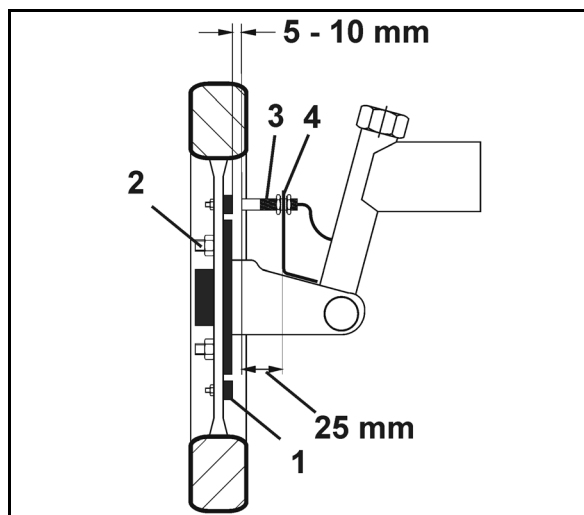

Fig. 95
2. Press in the PTO shaft spring pin (Fig. 95/1).
4. Secure the PTO shaft guard against simultaneous rotation by attaching the chain (Fig. 95/2) to the machine (Fig. 94/2).